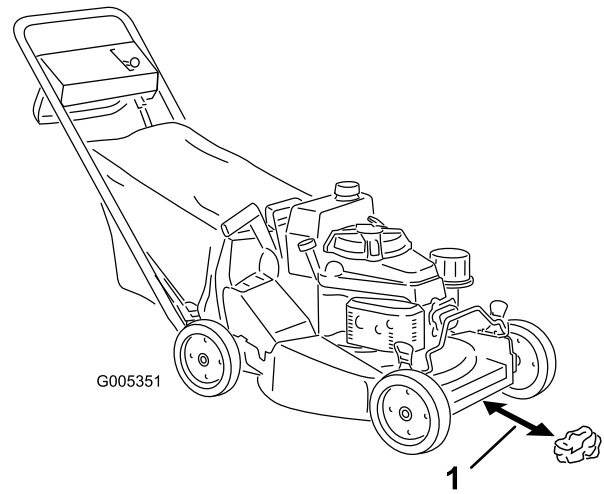
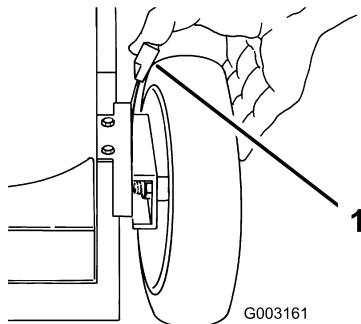

Figure 16
Figure 21
3. Set all 4 wheels in to the 2-1/2 inches (64 mm) cutting height setting (Figure 21).
4. Set the ground speed selector to the Neutral (N) position.
5. Take a half sheet of newspaper and crumple it into a ball small enough to go under the deck (about 3 inches or 76 mm in diameter) as shown in Figure 16.
6. Place the ball of newspaper 5 inches (12.7 cm) in front of the lawn mower (Figure 16).
- A. Place the ball of newspaper 5 inches (12.7 cm) in front of the lawn mower (Figure 16).
1. Pull the wheel height adjustment lever toward the wheel (Figure 21) and move it to the desired setting.